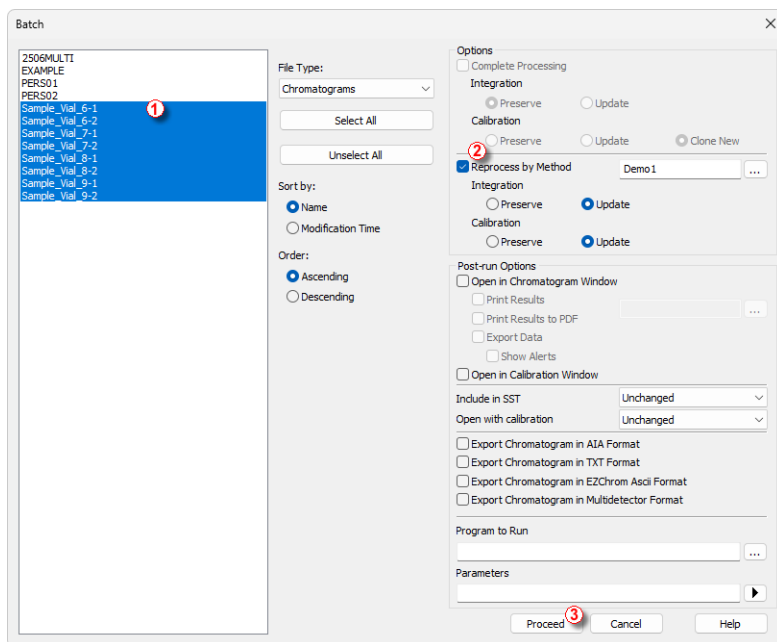

Fig. 20: Batch dialog with selected chromatograms
- Select the files to be reprocessed in the left part of the dialog (Fig. 20 on pg. 29.); multiple files can be selected by left-clicking them while holding the **Ctrl** or **Shift** key. For the demonstration, select all files with the names SAMPLE_VIAL_X-Y to be reprocessed.